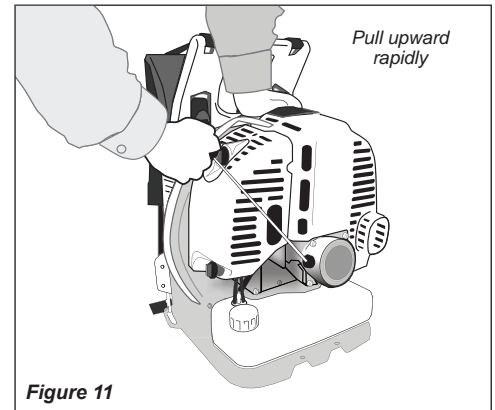

Figure 11
6. Using your right hand, pull the starter handle slowly until you feel the starter engage. See Figure 11.